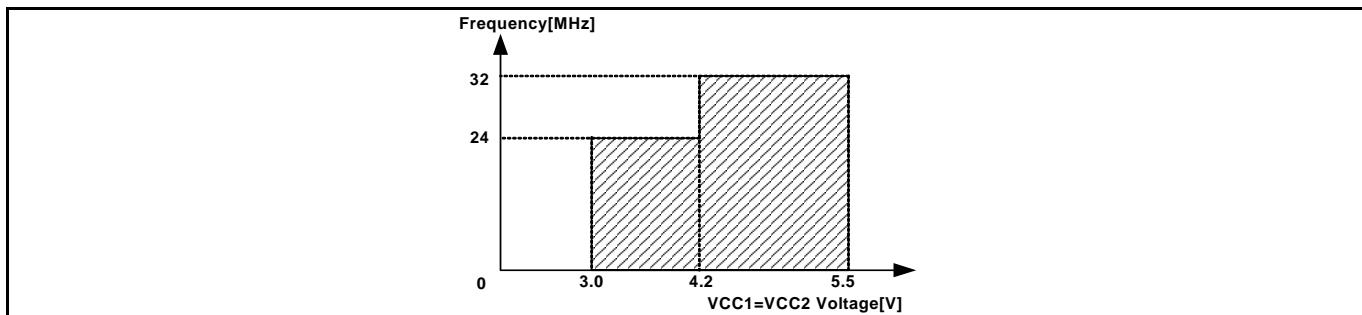

Figure 4.2 Single-power supply (VCC1=VCC2) and disconnecting to the emulation memory board (R0E330850MSRC0)
*2: The relationship between the voltage and the maximum operating frequency of this product is shown in Figures 4.2 to 4.5.